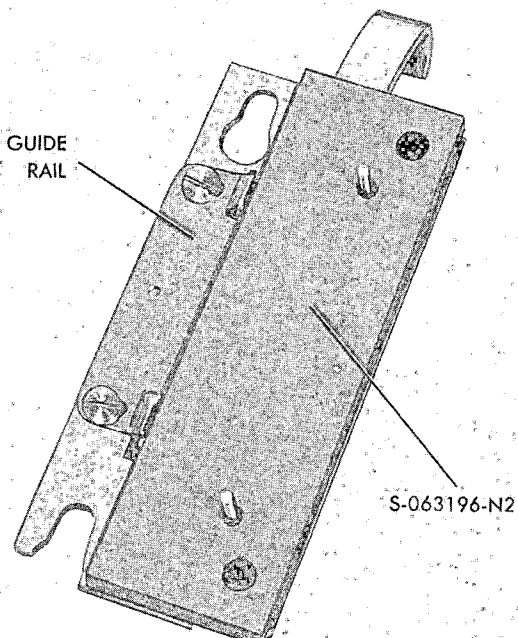

Figure 6. Adjusting Aperture Plate Fixed Guide Rail
- a. Secure film rail (1) to plate subassembly (7) with screws (2), tightening screws just enough to hold. The rail must be free to move. Place guide rail gage (Tool No. S-063196-N2) on aperture plate as shown in figure 6. Press down firmly on gage so that the two alignment pins on back of gage fit snugly into aperture plate mounting holes. Press gage upward (toward aperture plate handle) to lock the pins into mounting holes. Hold film rail up flush against the gage and tighten screws (2) securely.
- b. Lay washers (6) over floating guide rail mounting holes in aperture plate, and place rail (3) on top of washers so that pin on underside of rail protrudes through hole in aperture plate. Install and tighten screws (4).
- c. Invert aperture plate and place loop of spring (5) over floating film rail pin. Engage straight ends of spring in slots in under side of aperture plate.
56. REAR MECHANISM PLATE. (See Parts Catalog figure 6.) Attach rear mechanism plate assembly (28) to front mechanism plate assembly (31) with attaching screws (29) and lock washers (30).
57. BLOWER MOTOR AND COVER ASSEMBLY. (See Parts Catalog figure 6.) Fasten the blower motor and cover assembly (25) to rear mechanism plate with seven screws (26) and lock washers (27). Wiring connections will be made after all major components have been installed.
(See Parts Catalog figure 6.)
a. Carefully insert the partially assembled front and rear mechanism plate (15) into the projector case (29). Vibration mounts at top of mechanism plate must be aligned with two screw holes in top of case so that screws (16) can be installed. Mounts at front and rear edges of mechanism plate must be positioned below brackets within projector case so that hex head screws (26) can be installed.
b. Install all hardware parts (18 through 28) and make certain that all shielded ground wire cables (item 15, Parts Catalog figure 6) are properly connected.